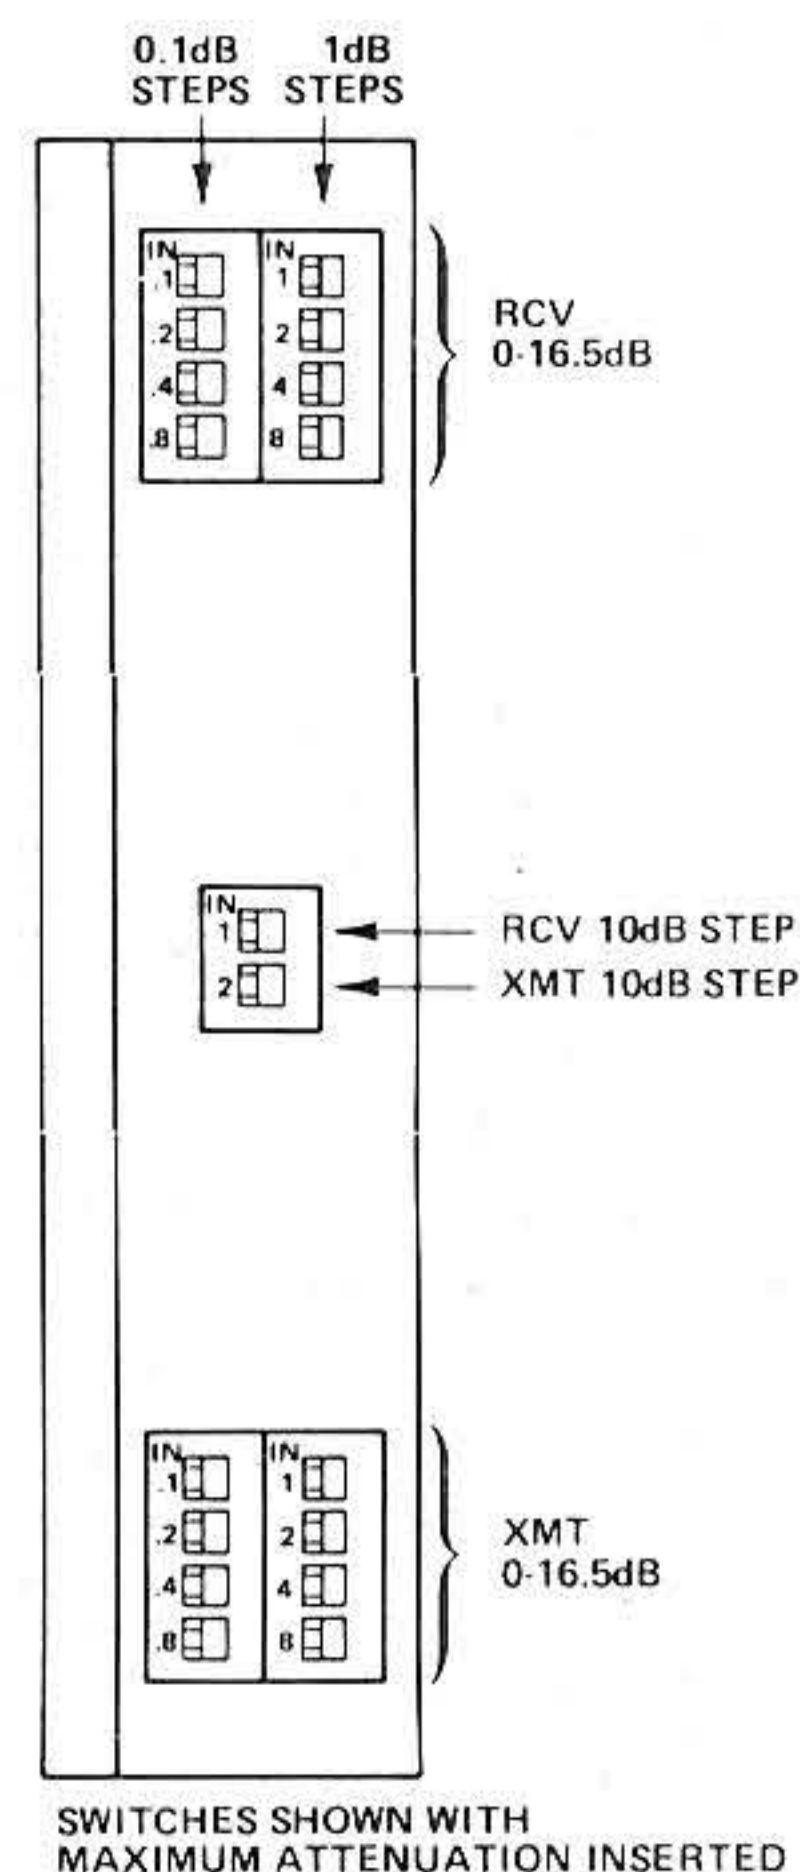

figure 2. 6923 front-panel switches
2.05 Adjustable attenuators in the transmit and receive paths provide for interfacing the -16 transmit and +7 receive facility-side TLP's with terminal-side levels in accordance with good transmission design. From 0 to 26.5dB of loss may be introduced in 0.1dB increments via front-panel DIP switches (see figure 2). Total attenuation in either channel is the sum of that channel's switches set to the /N (closed) position.